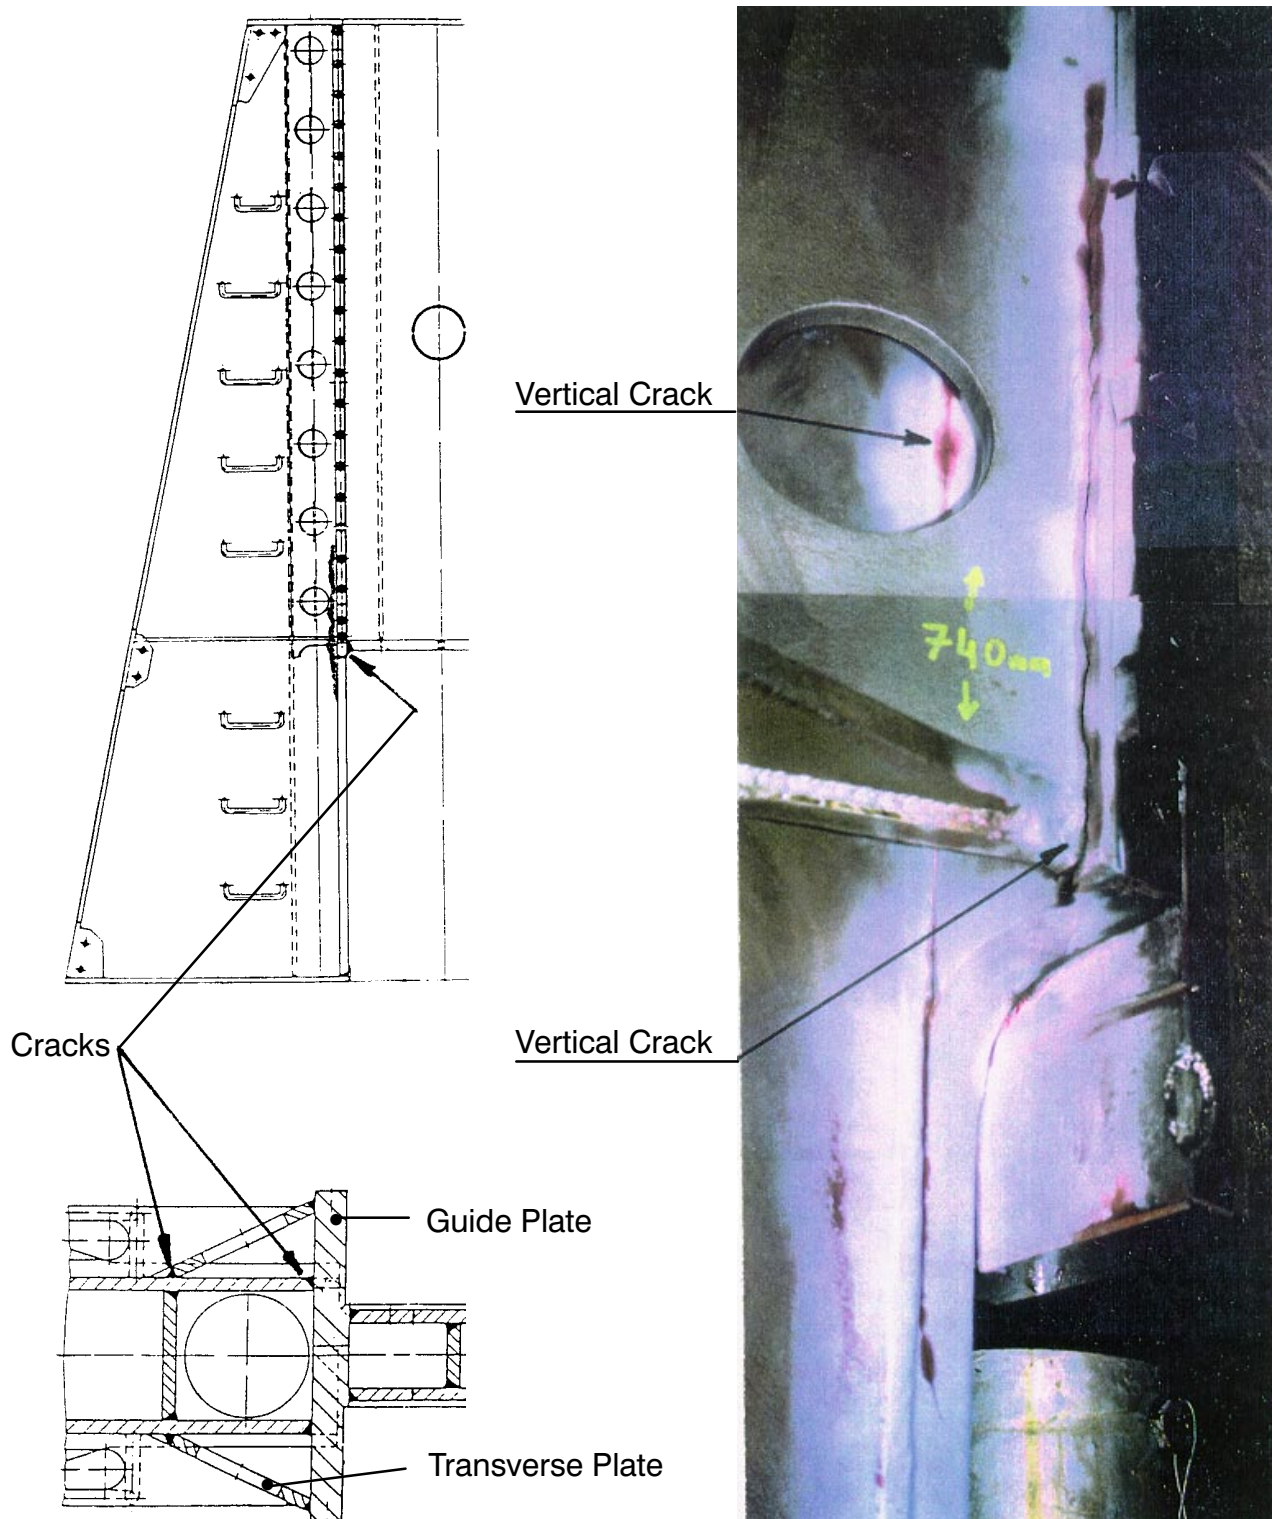

Fig. 3 Vertical Cracks in the Welding Seam between Guide Plate and Transverse Plate
- In the welding seam between guide plate (rail) and transverse plate [RTA 76, RTA 84] Fig. 3
5.6. Crack at the Guide Plate and Transverse Plate (Fig. 3)